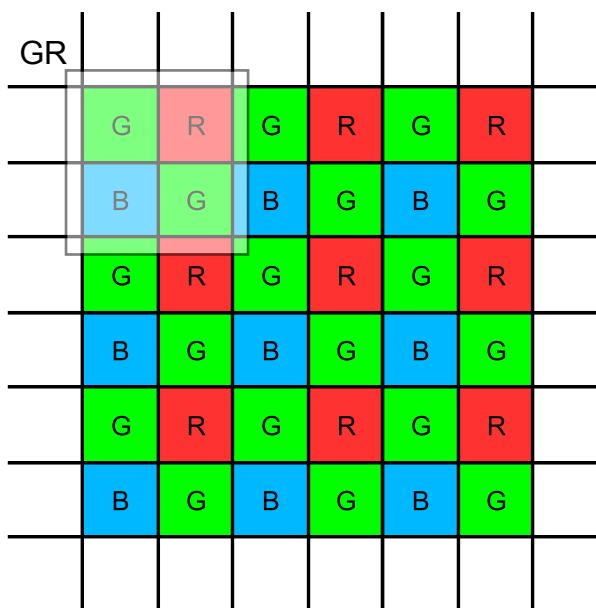
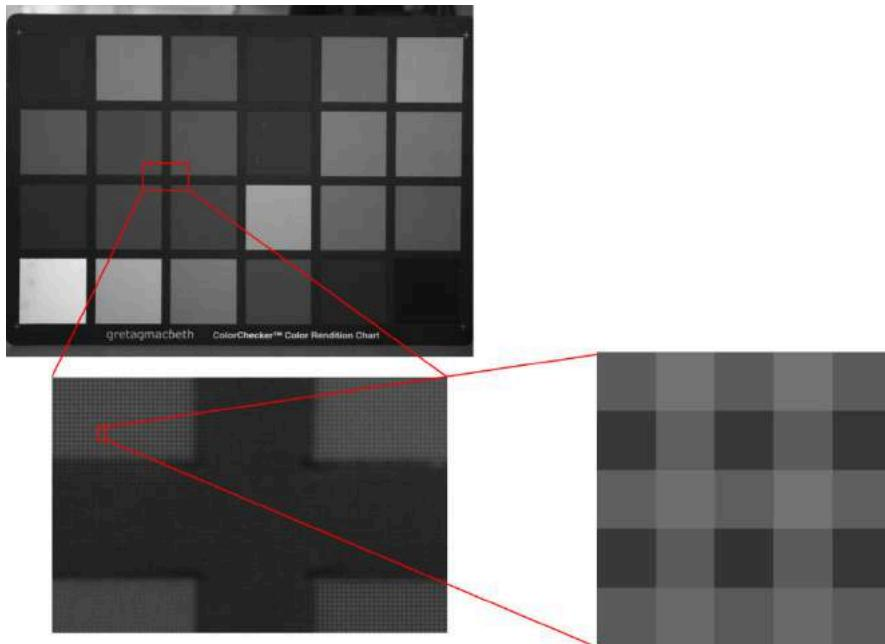

Figure 106: Bayer Filter Pattern GR
Figure 107: Raw image overlaid with a Bayer pattern
Each pixel on a digital camera sensor contains a light sensitive photo diode which measures the amount of incoming light. As photodiodes are monochromatic devices, they are unable to determine the distribution of the incoming light to different wavelengths. A common way to distinguish between different light wavelengths or colors is to place an array of color filters (*Color Filter Array*; CFA) on top of the sensor to filter out for example the red, green, and blue components of light falling onto it. Among many CFA patterns, the most commonly used is the Bayer pattern. For each 2×2 set of pixels, two diagonally opposed pixels are equipped with filters which are only transmissive for green, the other two only for red and blue. Since green carries most of the luminance information for the human eye, its sampling rate is twice as that of R and B. Figure 106 shows the "GR" filter alignment, which means that the pattern starts with green (G) followed by red (R).
The illustration in Figure 106 is for demonstration purposes only. In effect, each pixel is described by an intensity value, which appears gray to the human eye, shown in Figure 107.
Figure 107 shows a raw image from a color camera. If it is zoomed into the image, the Bayer pattern gets more and more visible. Each pixel represents an intensity value, to reconstruct a full color image from the incomplete color samples, the missing color information at each pixel has to be interpolated. The interpolation process has several different names like *Color Filter Array Interpolation*, *Demosaicing* or *Debayering*. The reconstructed image is typically accurate in uniform-colored areas, but has a loss of resolution especially at structures and edges.